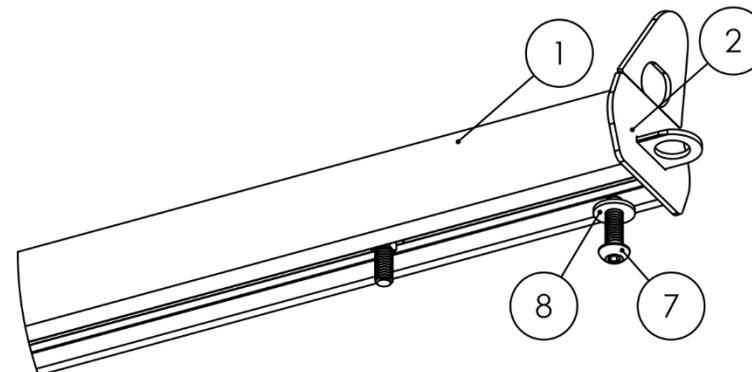

Figure 9
5. **Install the End Caps to the Crossbars.** Slide (4) End Caps (Item No. 2) into each end of a Crossbar (Item No. 1). Once inserted, match the Crossbar's pre-drilled hole with the End Cap's threaded hole. As shown in Figure 9, secure each End Cap by threading a 1.25" Button Head Cap Screw (Item No. 7) and a Metal Washer (Item No. 8) into the concentric holes.